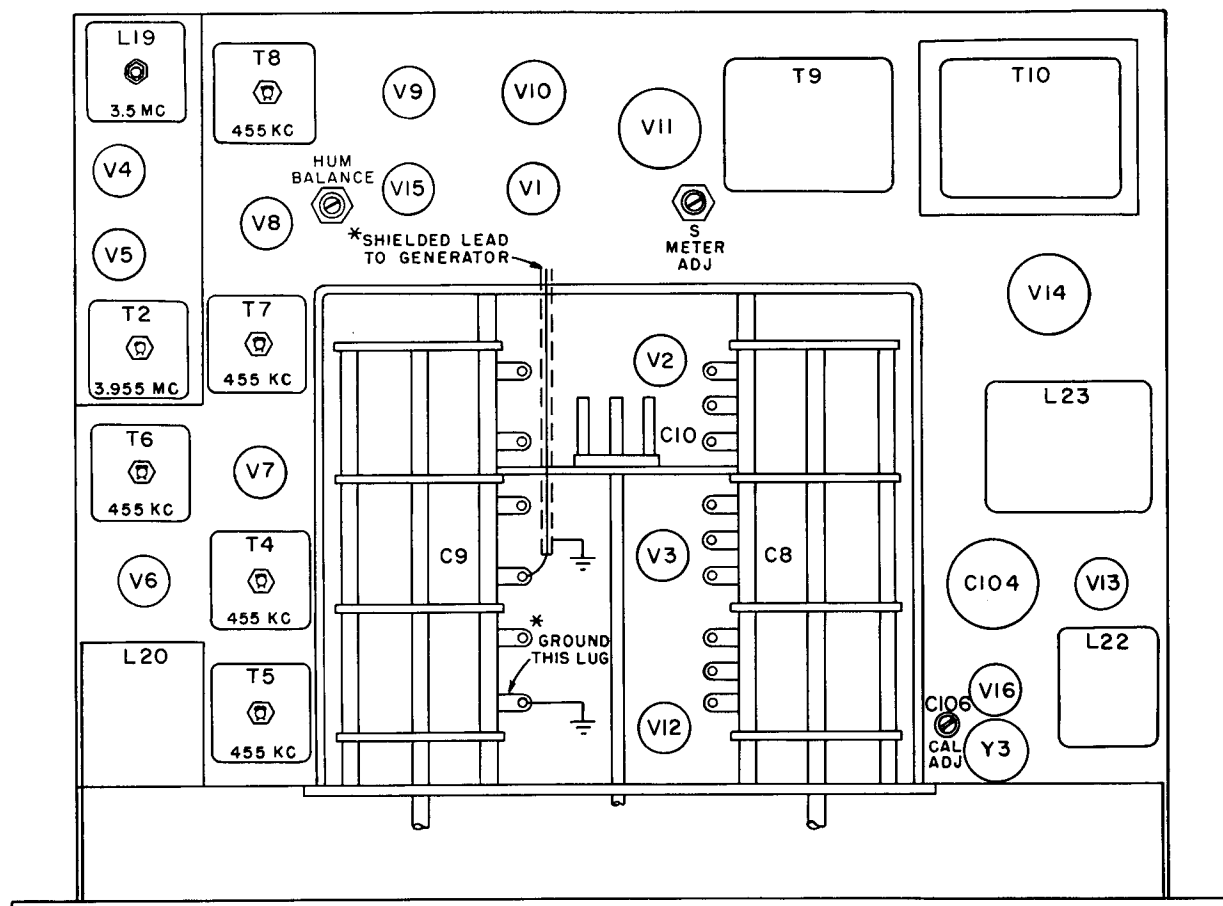

Figure 4-2. Receiver Chassis, Top View
b. As shown in Figure 4-2, ground one lug of main tuning capacitor and connect output lead from hf signal generator to other.
b. As shown in Figure 4-2, ground one lug of main tuning capacitor and connect output lead from signal generator to other.
c. In order, adjust i-f transformers T8, T7, T6, coil L20, and i-f transformers T5 and T4 (Figures 4-2 and 4-4) for maximum reading on vtvm.
- Adjust coil L19 (Figure 4-2) until some deflection of vtvm is noted.
d. In order, adjust i-f transformers T3 and T2 (Figures 4-2 and 4-4) for maximum deflection
4-22 To adjust HUM BALANCE control R94 (Figure 4-2) proceed as follows:
- e. Adjust S METER ADJ control on top of receiver chassis (Figure 4-2) for S-meter reading of S-9.